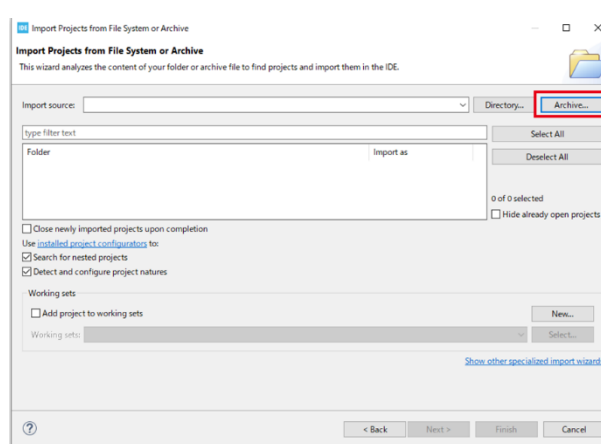

Fig. 6.7 Import file selection
- (e) Select "Archive", as shown in Figure 6.7, and select SAPM-MD01V7.zip.